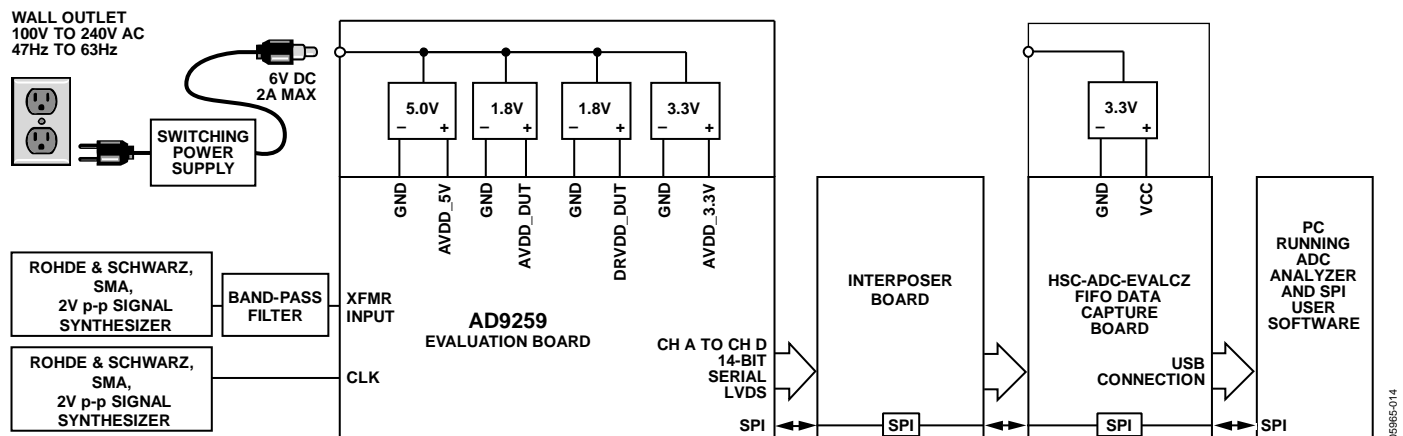
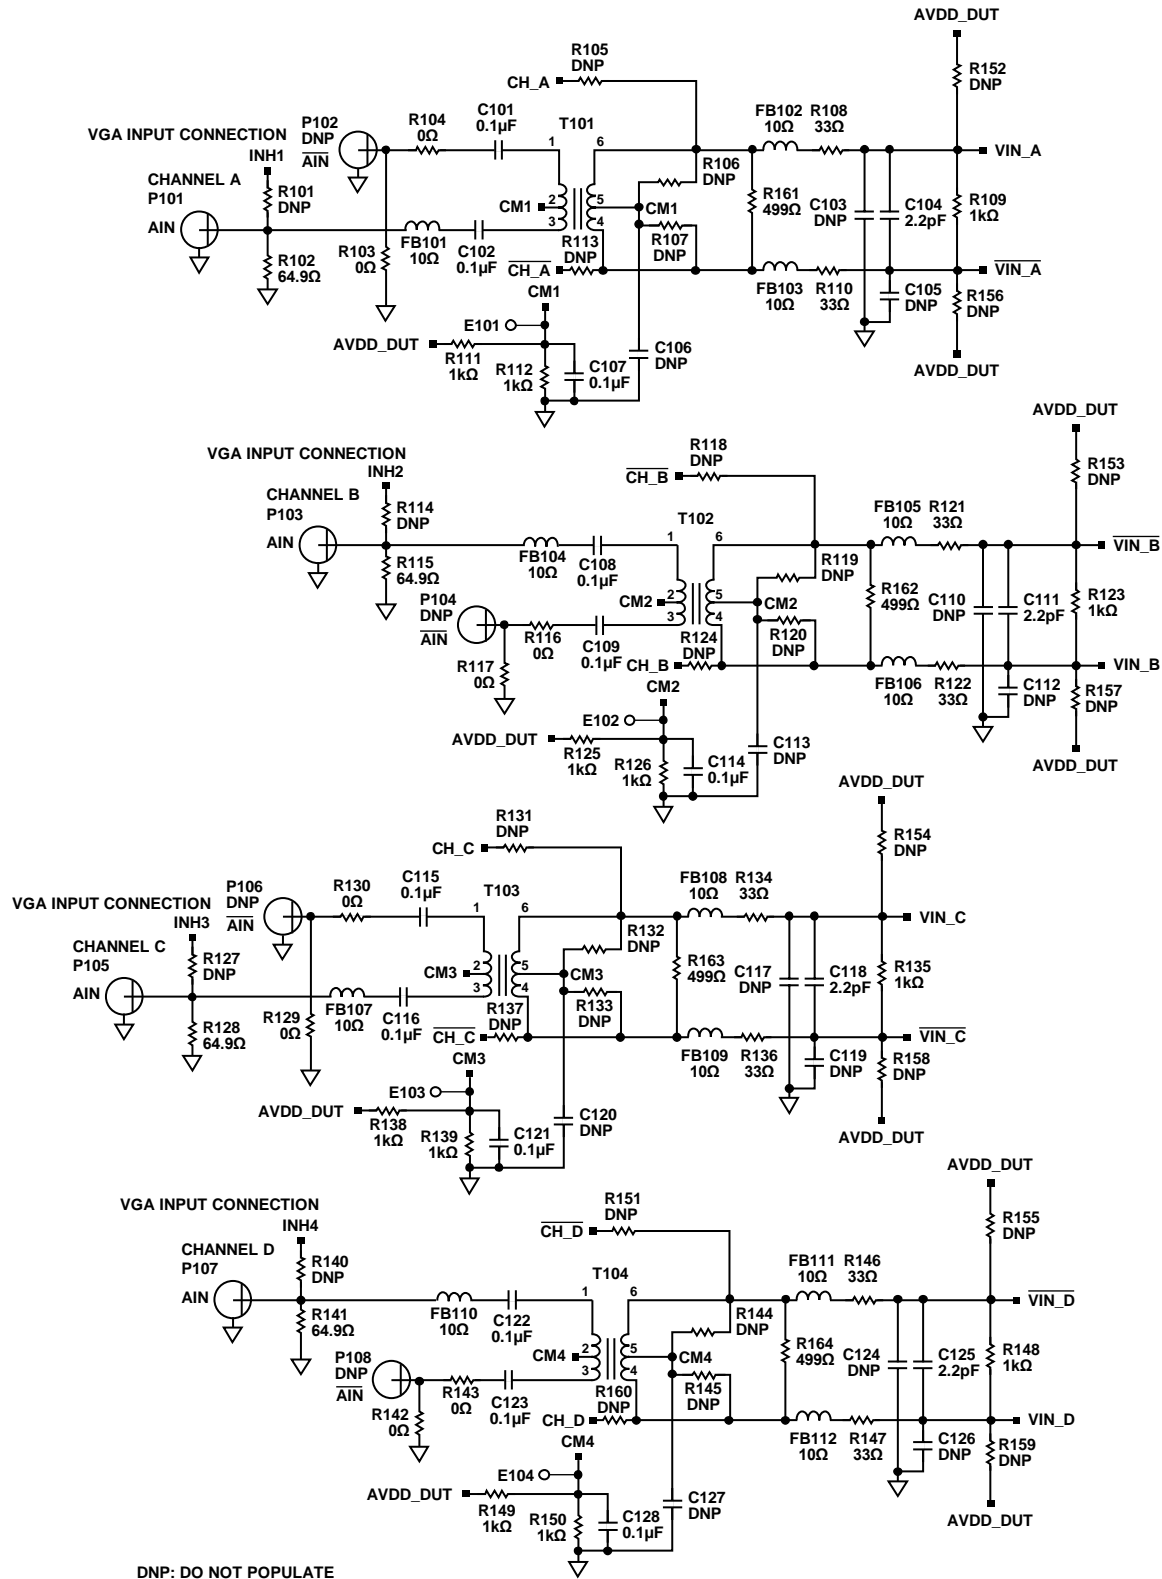
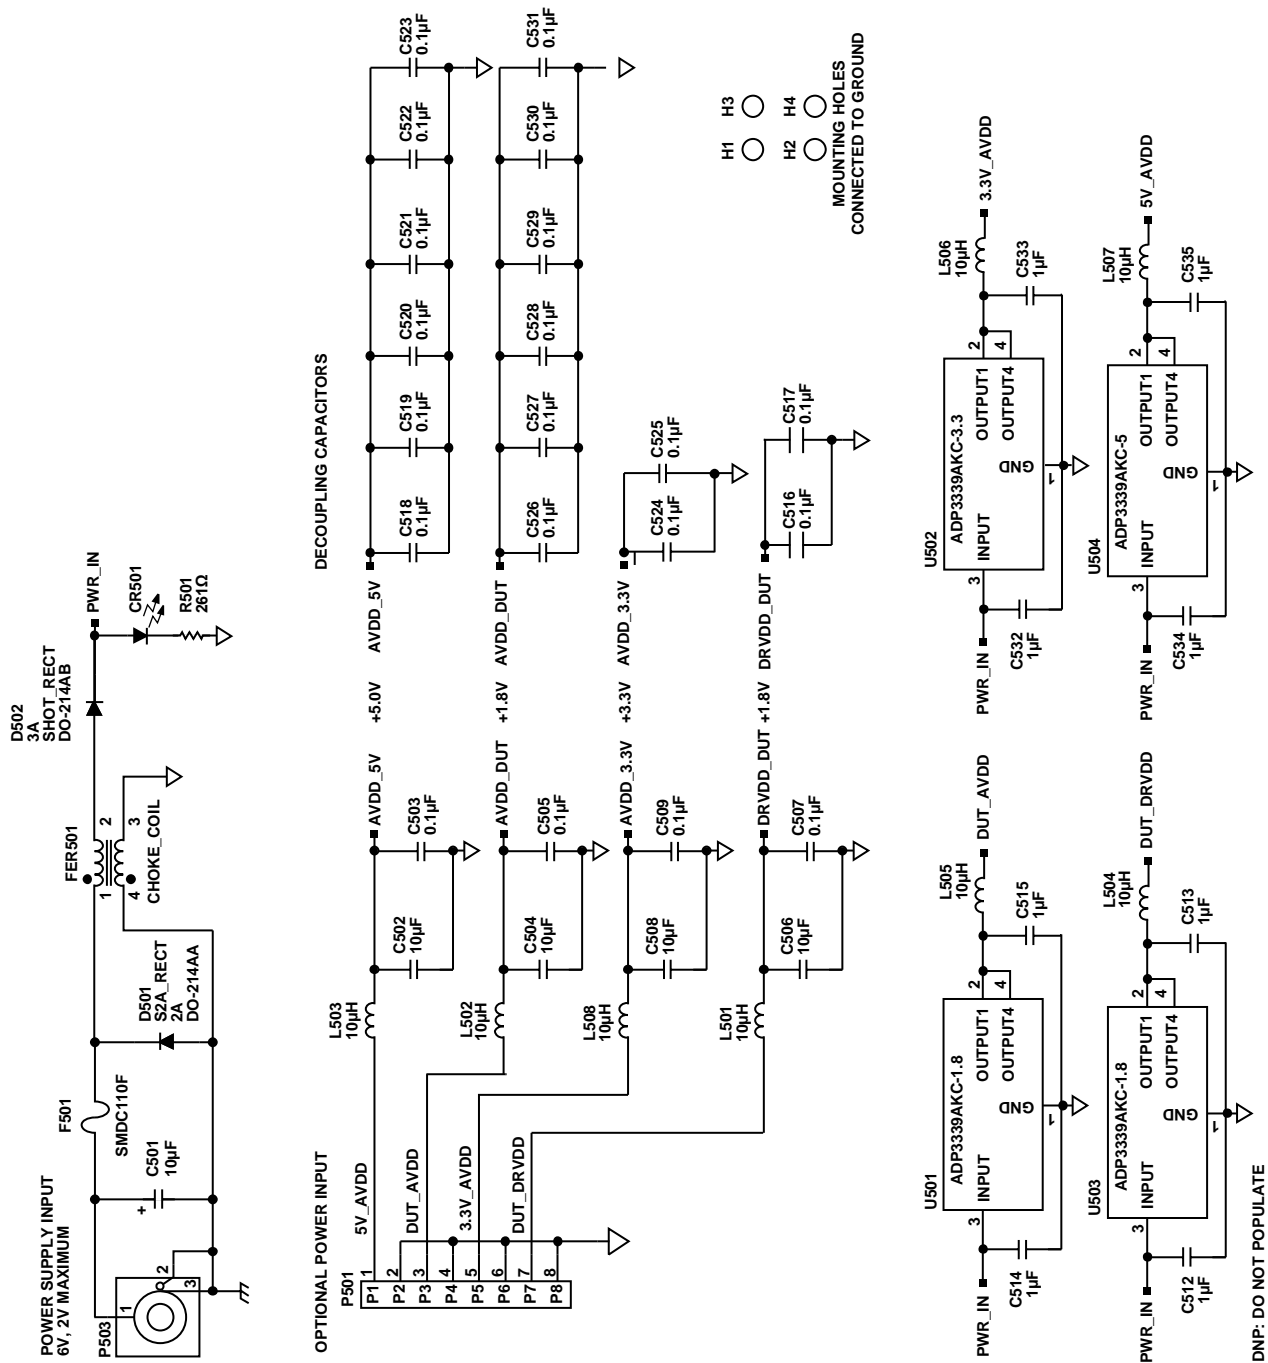

Figure 60. Evaluation Board Connection
Figure 62. Evaluation Board Schematic, DUT Analog Inputs
Figure 66. Evaluation Board Schematic, Power Supply Inputs
The AD9259 evaluation board provides all of the support circuitry required to operate the ADC in its various modes and configurations. The converter can be driven differentially using a transformer (default) or a AD8332 driver. The ADC can also be driven in a single-ended fashion. Separate power pins are provided to isolate the DUT from the drive circuitry of the AD8332. Each input configuration can be selected by changing the connection of various jumpers (see Figure 62 to Figure 66). Figure 60 shows the typical bench characterization setup used to evaluate the ac performance of the AD9259. It is critical that the signal sources used for the analog input and clock have very low phase noise (<1 ps rms jitter) to realize the optimum performance of the converter. Proper filtering of the analog input signal to remove harmonics and lower the integrated or broadband noise at the input is also necessary to achieve the specified noise performance.
See Figure 62 to Figure 70 for the complete schematics and layout diagrams demonstrating the routing and grounding techniques that should be applied at the system level.
- **D + x, D - x:** If an alternative data capture method to the setup shown in Figure 60 is used, optional receiver terminations, R206 to R211, can be installed next to the high speed back-plane connector.